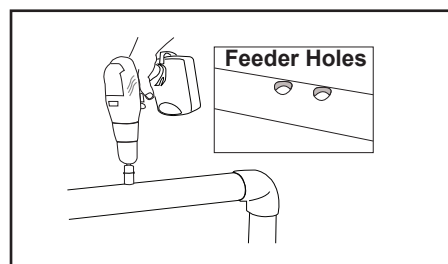

Figure 8. Drilling Feeder Holes
8. Drill the feeder holes using the holesaw provided. Ensure holes are clean and smooth (see Figure 8).